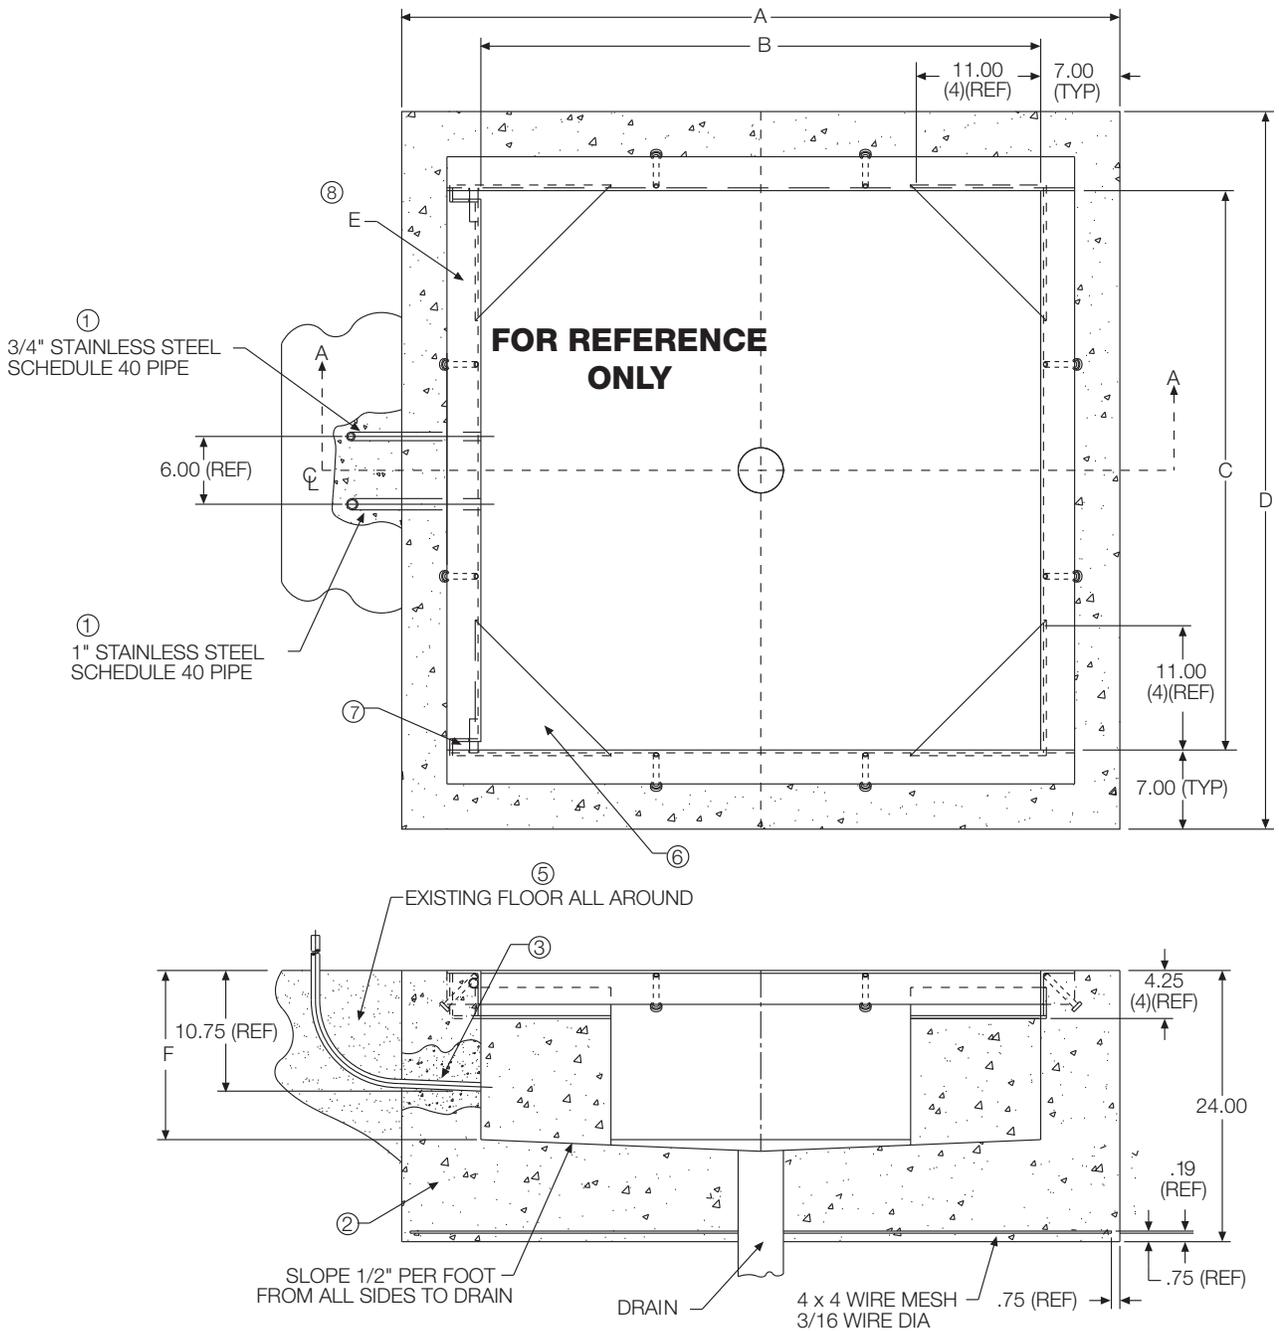

Figure 2-1. Example Pit Installation Drawing
Note See Figure 2-1 on page 4 for an example of a typical pit installation. The dimensions shown are for reference only and will vary by site.
- The following platform dimension numbers apply to Figure 2-1 on page 4